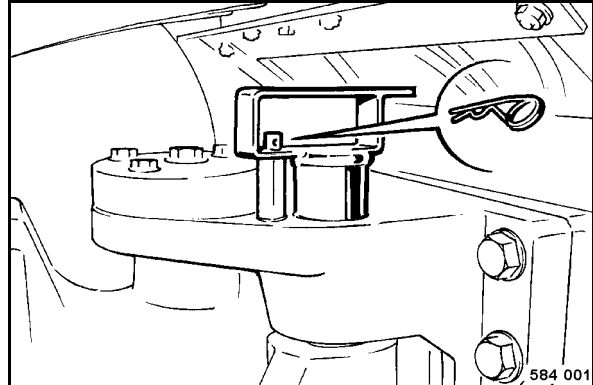

Fig. 114
- Pull the spring pin (Fig. 114) out.